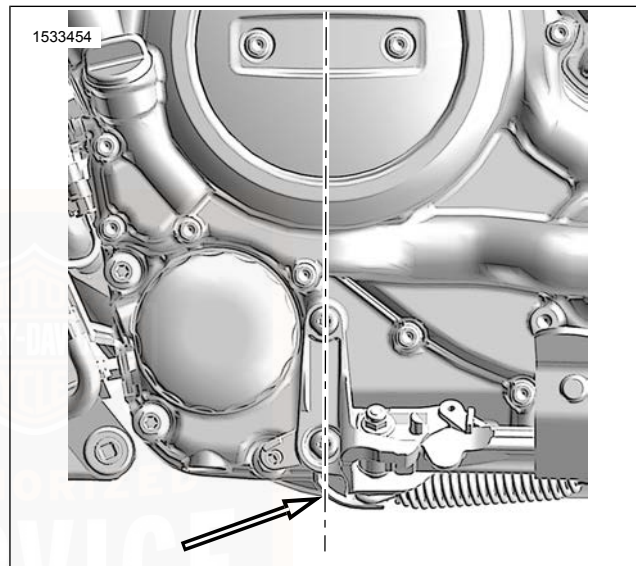

Figure 54. Crankshaft Centerline
- See Figure 54. When lifting motorcycle from underneath, always lift directly below crankshaft centerline with wood between motorcycle and lift.